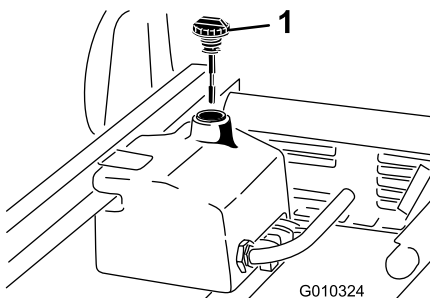

Figure 19
1. Clean the area around the filler neck and the cap of the hydraulic tank (Figure 19).
3. Remove the dipstick (Figure 19) from the filler neck and wipe it with a clean rag.